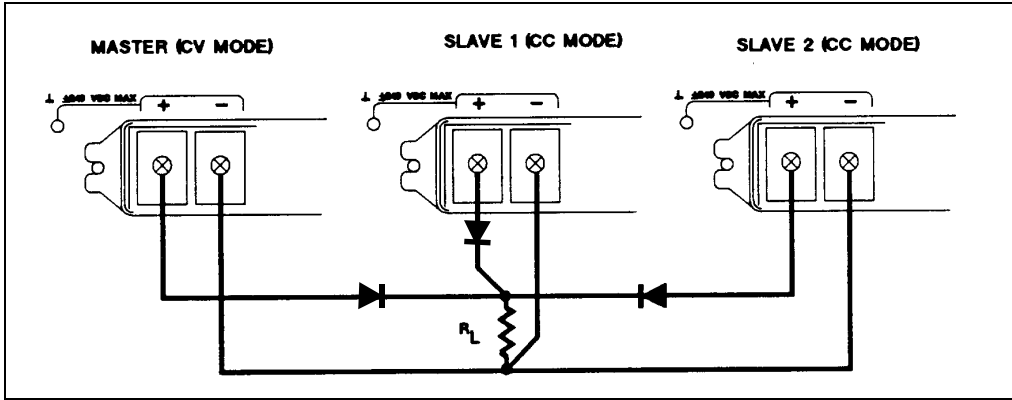

Figure 4-9. Using Series Diodes with Auto-Parallel Operation
- 2. Insert Protection Diodes.** If you connect all supplies to the load through a series diode (see Figure 4-9) and a unit's crowbar SCR trips, it will not draw current from other supplies. Be certain to increase the programmed voltage level of the slaves by at least 0.7 V to compensate for the voltage drop in the diode.